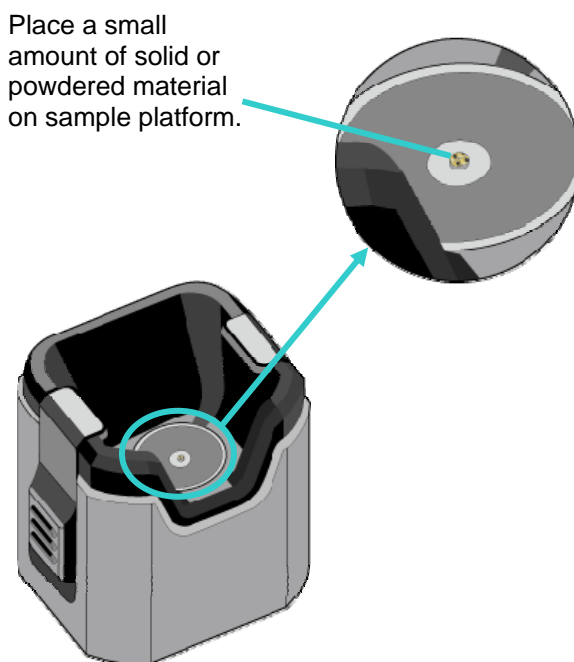

Figure 3. Placing a Powdered or Solid Sample on the Sample Platform
4. When the Position Sample screen appears, place a small amount of the sample material on the sample platform in the sample crusher, as shown in Figure 3.